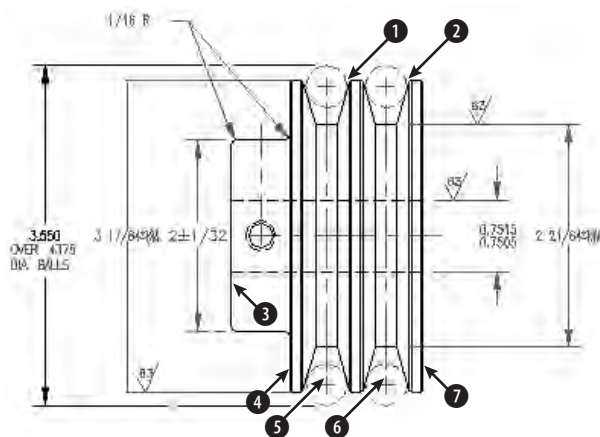

Figure 14-33: You can use Quick Dimension to dimension the circles and create continuous dimensions.
2. Save the file as `ab14-08.dwg` in your AutoCAD Bible folder. This is the same drawing you used in the previous exercise, except that some of the dimensions have been removed (see Figure 14-33). OSNAP should be turned off. If the Dimension toolbar isn't displayed, right-click any toolbar and choose Dimension.
Select geometry to dimension: *Pick the circle at ❶ in Figure 14-33.*
Select geometry to dimension: *Pick the line at 3 in Figure 14-33.*